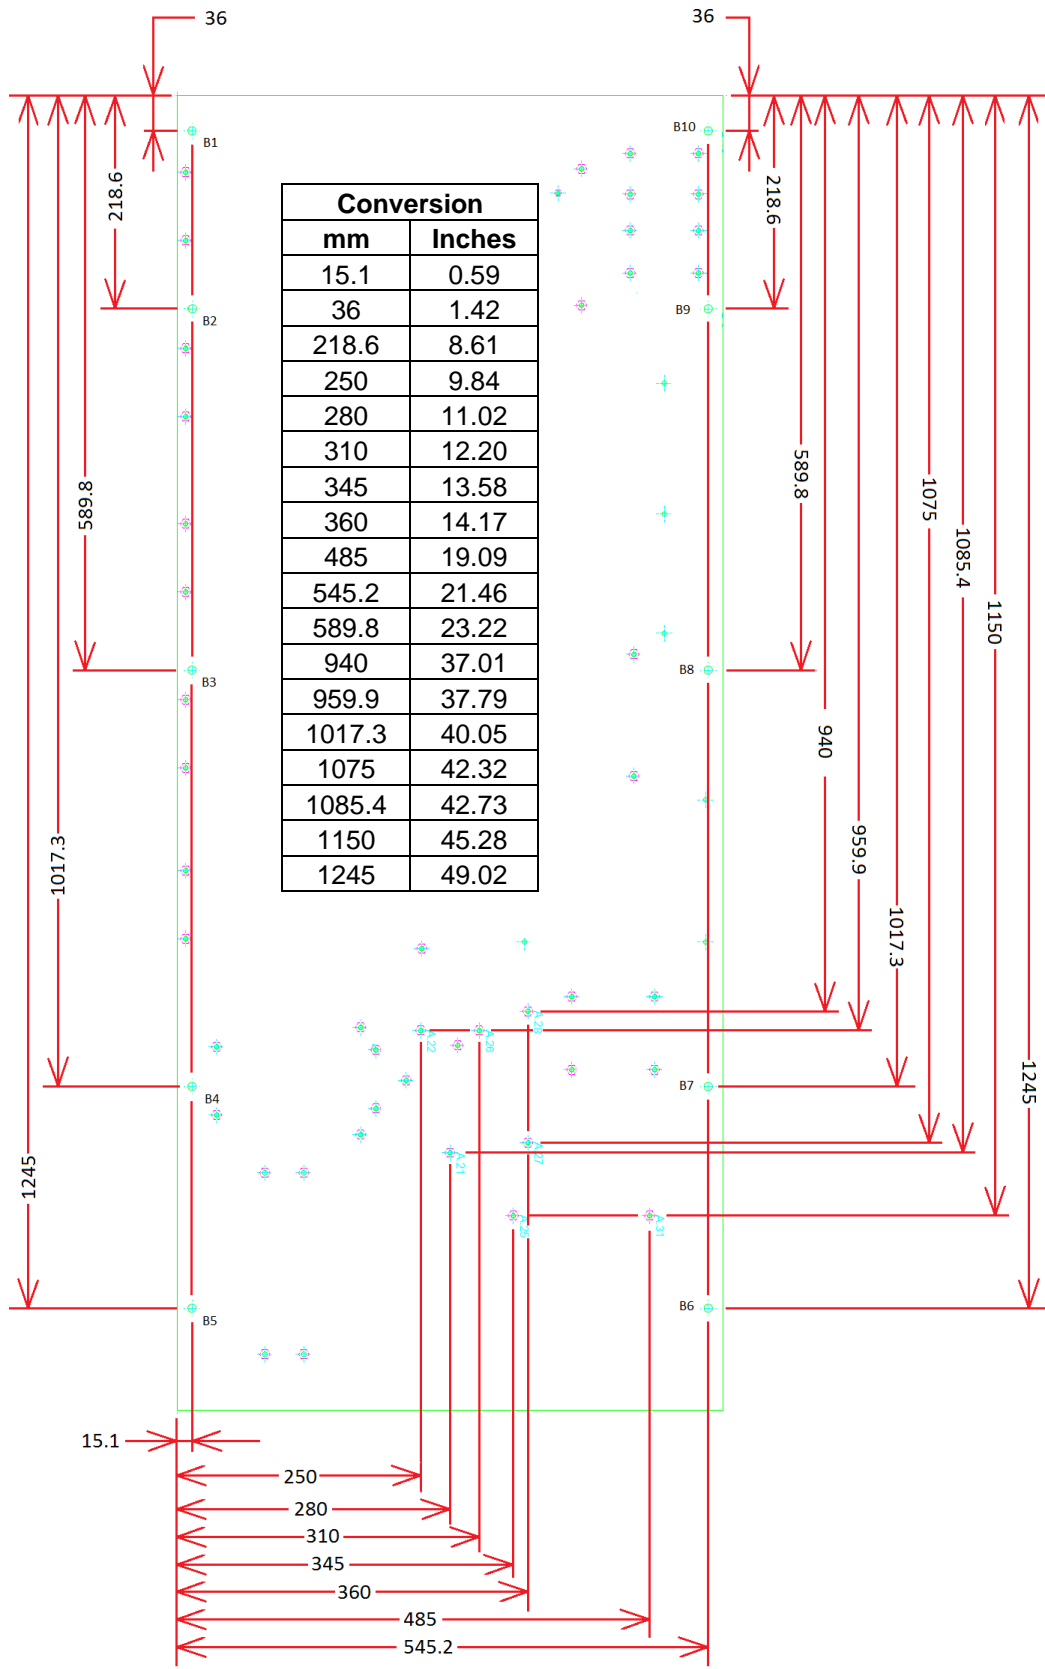

Figure 6: Hole locations in millimeters
7. Once components are removed, begin marking and drilling identified points in Figure 6.
- ☞ **NOTE:** As a result of re-working an old version of this board, there will be interference at point B9 with an insert. This insert is unused. Drill in specified locations outlined in Figure 6.
8. Secure M5 nutserts in the new B series holes on the perimeter of the EDC board. Refer to Figure 6.